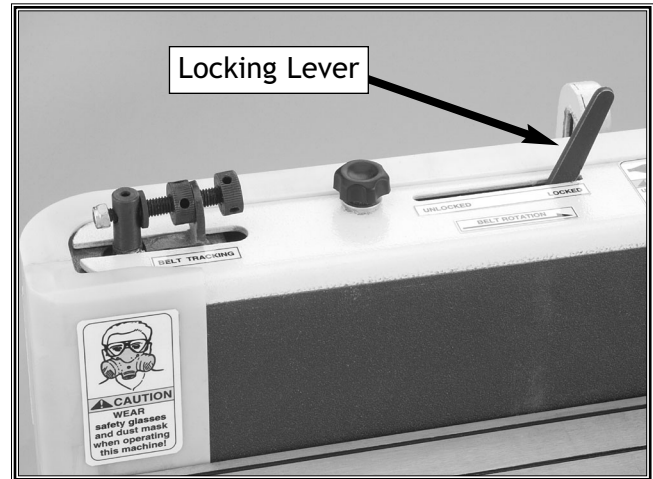

Figure 7. Belt locking lever.
2. Make sure all guards are in place and the belt locking lever is in the locked position as shown in **Figure 7**.